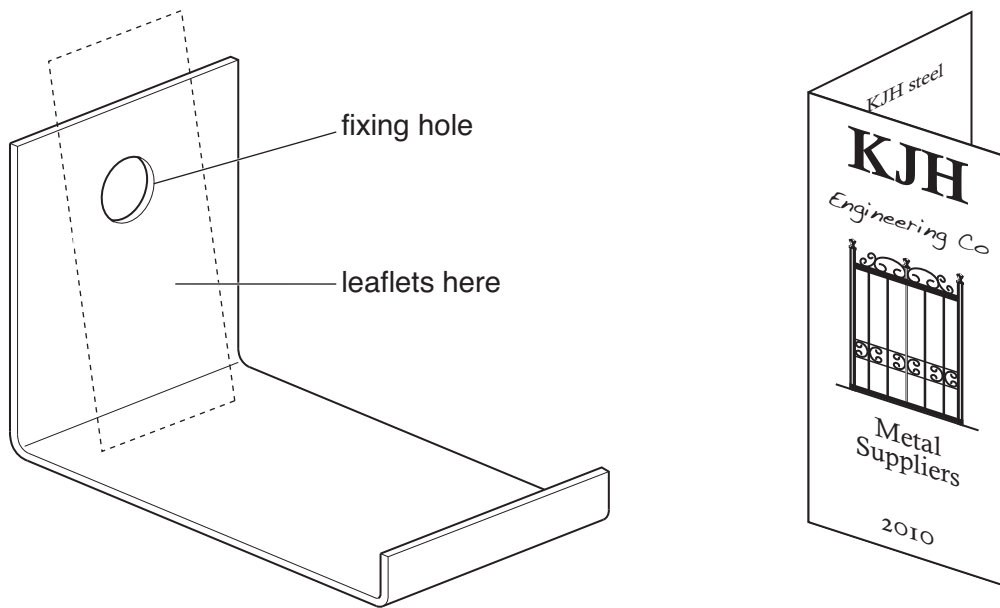

Fig. 2
- 3 Fig. 2 shows an acrylic wall mounted point of sale display unit and a leaflet.